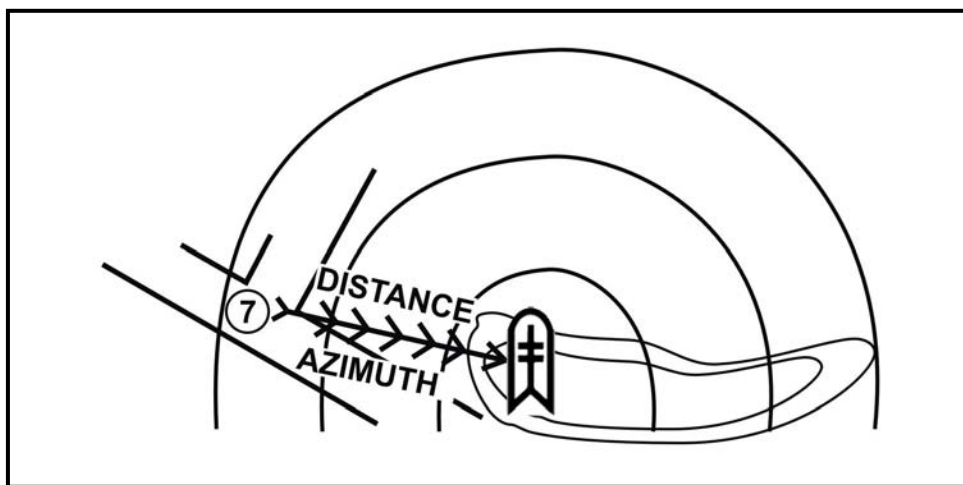

Figure D-10. Gunner's reference point and firing position.
h. **Gunner's Reference Point.** The gunner's reference point (GRP) serves as a point of reference when one unit is being replaced by another (Figure D-10). The gunner locates a nearby recognizable terrain feature (such as hilltop, road junction, and so forth) to the right, left, or rear of his firing position to use as his GRP. Label the GRP and draw an arrow between it and the firing position. The direction of the arrow determines which azimuth to use. *Record the azimuth and distance in the data section.*